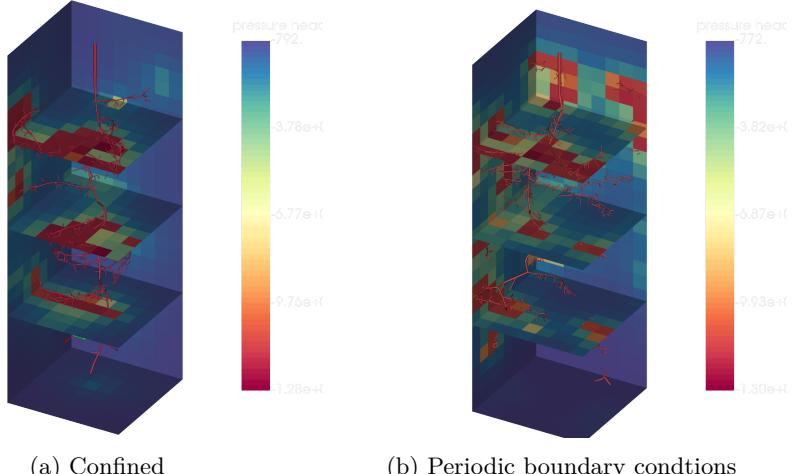

Figure 20: Water depletion due to root uptake after one week.
- 99-111 L99 creates Figure 20 and, L102-111 plots uptake and cumulative uptake over time, see Figure 21.